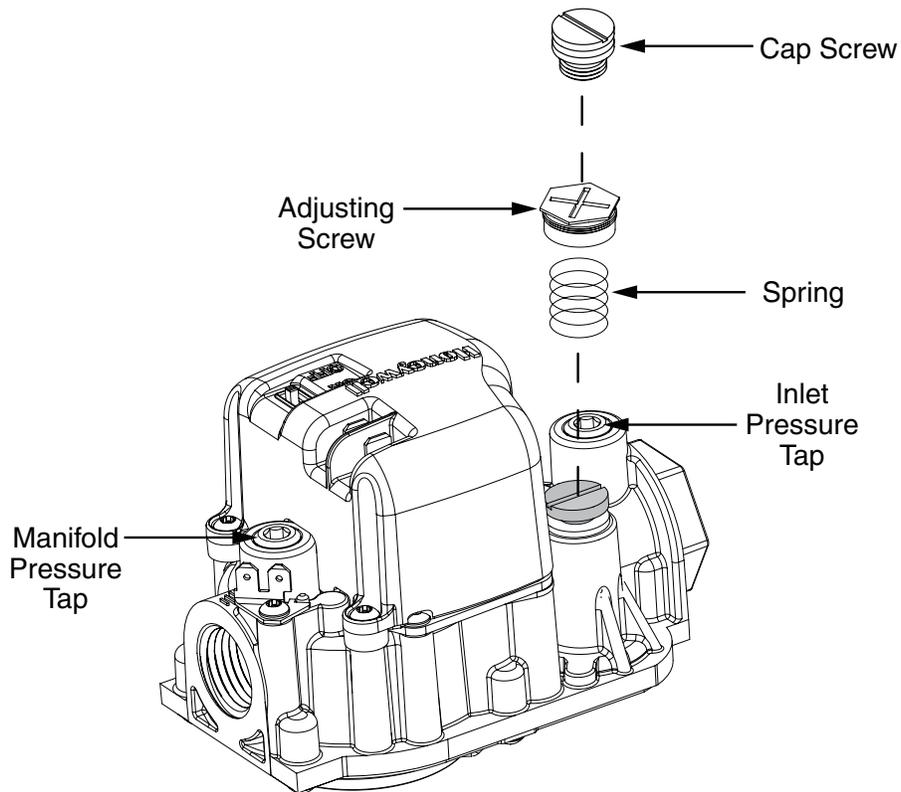

Figure 2. Inlet & Manifold Pressure Tap Locations
1. Remove the cap screw from the gas valve as shown in Figure 2 (page 5).
2. Using a 3/16" Allen wrench, remove the plug from the inlet pressure tap (INLET side of gas valve). See Figure 2 (page 5).
4. Place the gas valve ON/OFF switch/knob to the ON position. See Figure 2.
3. Using a 3/16" Allen wrench, remove the manifold pressure tap plug located on the outlet side of the gas valve. See Figure 2.
1. Remove the cap screw from the top of the gas valve regulator. See Figure 2 \(page 5\).
2. Using a screwdriver or Allen wrench (where appropriate), slowly turn the adjustment screw till the appropriate manifold pressure listed in Table 2 is achieved. See Figure 2.